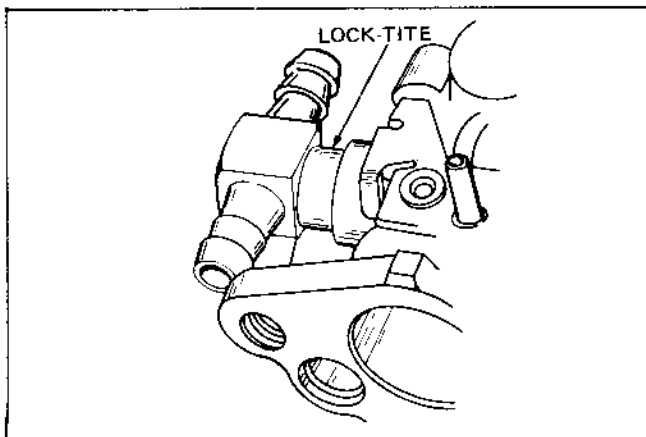

Figure 3-11. Replacing Fuel Inlet Fitting
- (1) The fitting may be removed from the carburetor by twisting and pulling. Make a note of the position in which the fitting was originally installed for proper fuel flow when the carburetor is re-installed on the engine.
- (2) When inserting the fitting into the carburetor body, seal it with Lock-tite grade A. Insert the tip of the fitting (Figure 3-11) into the carburetor body, then coat the remainder of the shank with Lock-tite grade A. Press the fitting in until the shoulder contacts the carburetor.